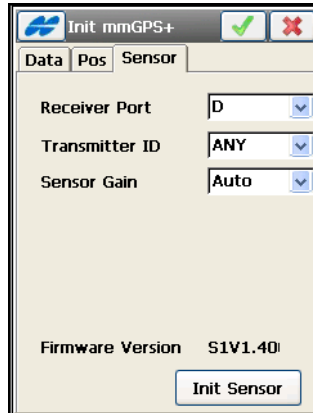

Figure 8-17. Init mmGPS – Sensor Tab
2. Select the *Sensor* tab and enter the following information (Figure 8-17 on page 8-19):